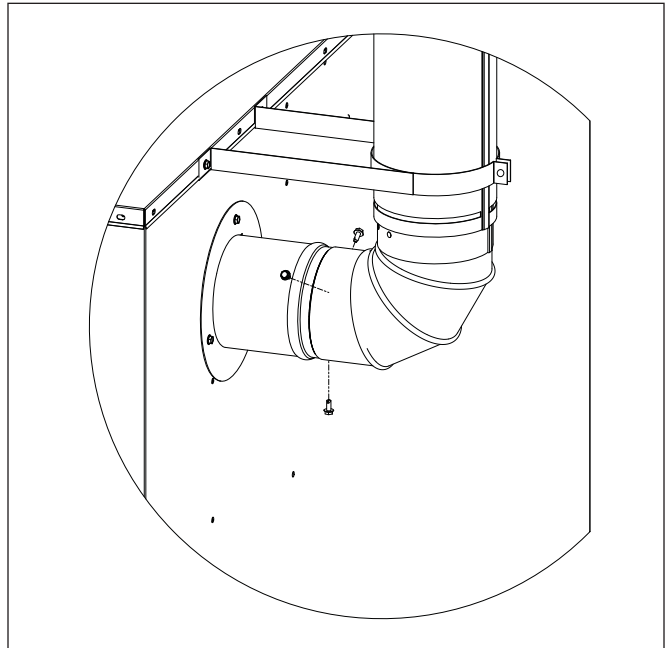

Figure 7. Start Collar to Flue Assembly
10. Secure the 90 degree elbow to the start collar using three self drilling screws spaced at 120 degree intervals around the circumference of the elbow as shown in Figure 7.